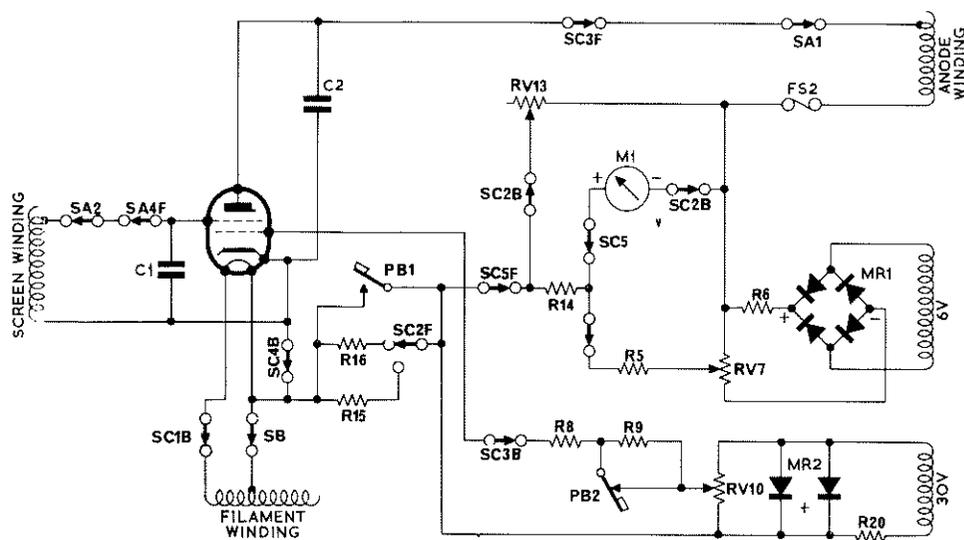

FIG. 6. MUTUAL CONDUCTANCE.
11. MUTUAL CONDUCTANCE (See Fig. 6)